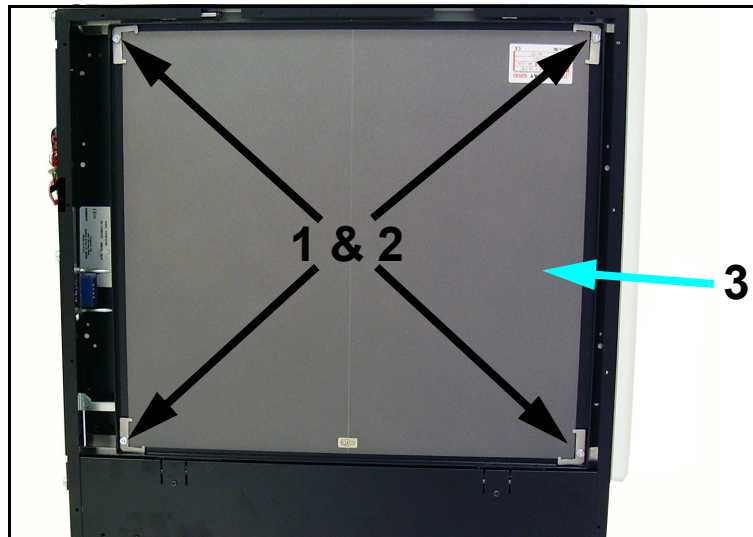

Figure 6-12. Grid
- 5 Unscrew grid clamp screws (1 in Figure 6-12) and remove clamps (2) and grid (3).